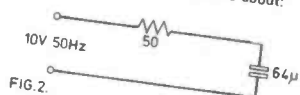

FIG. 2.
- 5) In Fig. 2 the voltage across the capacitor will be about: